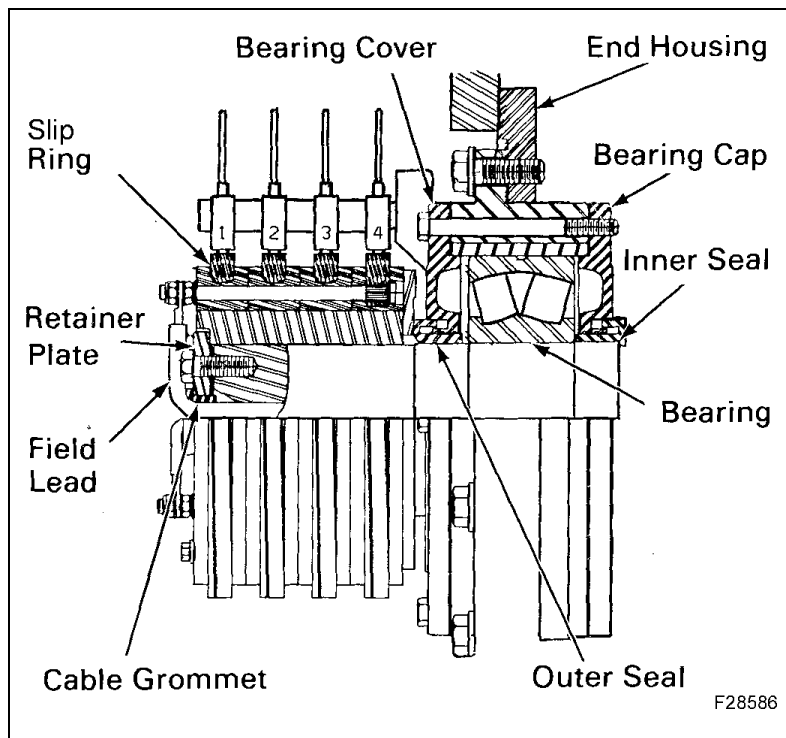
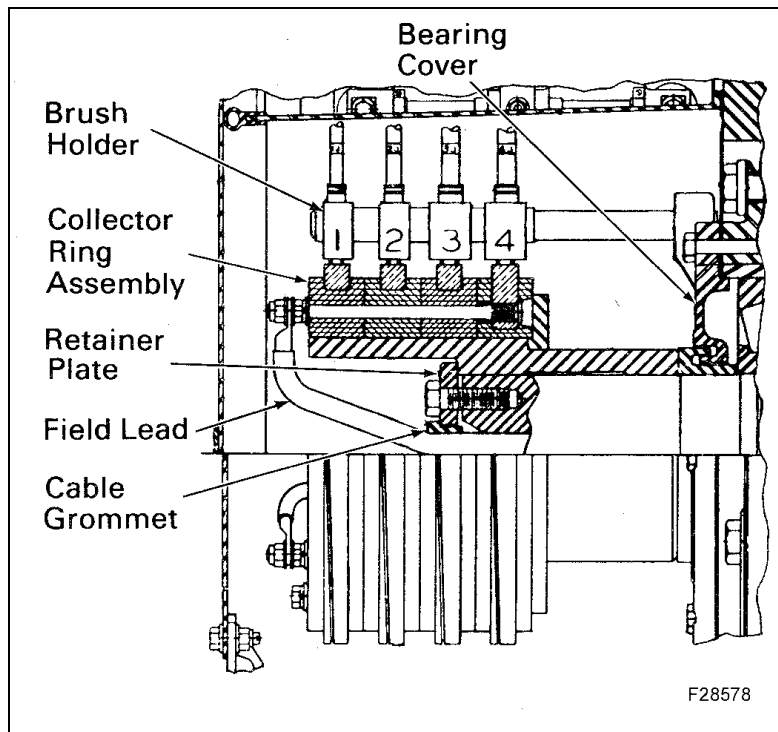

Figure 6 Standard Type Collector Ring Assembly
Figure 7 Extended Type Collector Ring Assembly
4. Disconnect field leads from collector ring studs, Figure 6 or Figure 7 , as applicable.
5. Remove the four bolts securing the retainer plate to the end of the shaft, and remove retainer plate, Figure 6 or Figure 7, as applicable.
The Standard type (Figure 6) is applied to AR10, AR12, AR15, AR17, TA12 and TA17 Main Generators.
The Extended Type (Figure 7) is applied to AR8, AR11, AR16, AR20, TA20 and TA22 Main Generators.
11. Remove bolts from bearing cover, and remove cover, Figure 6 or Figure 7. If cover is stuck to bearing housing, hit outer periphery of cover with a rawhide mallet or similar tool to loosen.